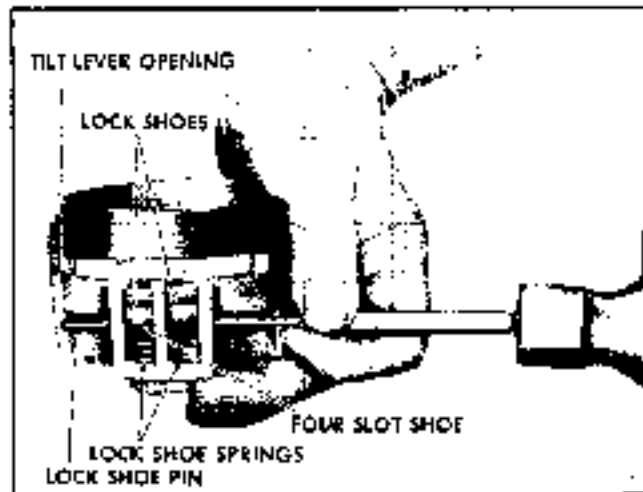

Fig. 9-26 Removing Lock Shoe Pin, Shoes and Springs
NOTE: With tilt lever opening on the left side, shoes facing up, the front slot shoe is on the left (Fig. 9-26).
5. Align keyway in shift tube with key in shift bowl and use tool J 22549 to pull the shift tube into the bowl (Figs. 9-26 and 9-29).